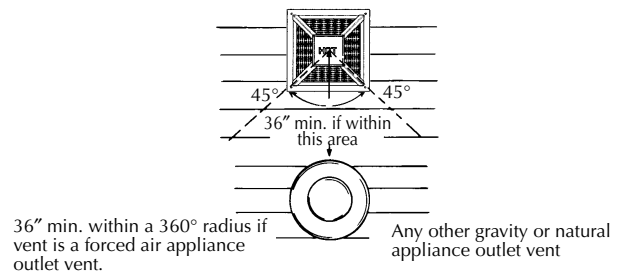

Figure 5
- 36" minimum from any outlet vents when directly below or 45° to either side of center line. Figure 5.
- 36" minimum in all directions from any other forced air appliance outlet vent. Figure 5.